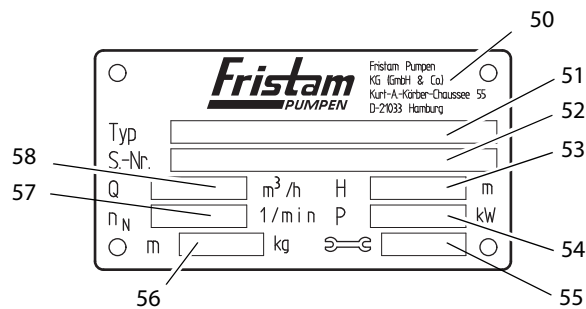

Fig. 27 Rating plate for pump without drive
- ▶ Ensure that the pump is adequately secured to the pallet, for example, with straps; see fig. 27, "Moving with pallet truck," page 27.
Wrap the round sling around the casing and the drive shaft; see fig. 27, "Moving with round sling," page 28.